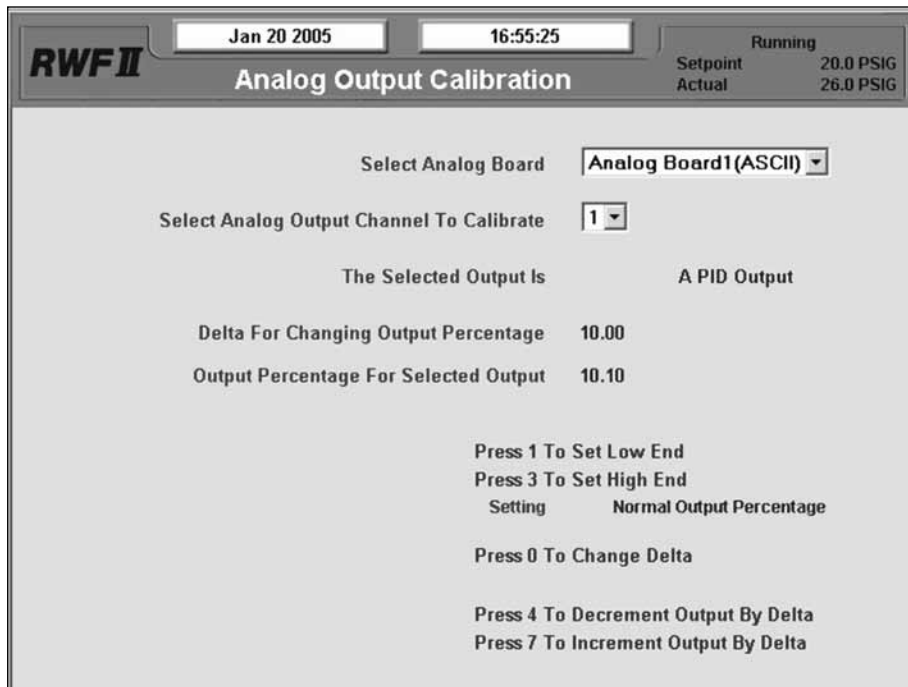

Figure 20
- Set operating session to session [2] and go to the screen shown in Figure 20 by pressing [Menu] > [Calibration] > [Analog Outputs] > [Output Calibration].